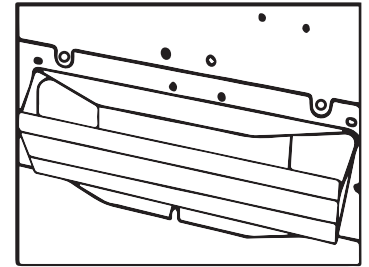

Figure 3
- Using the supplied screws, attach the rectangular vent/damper to the rear of the range hood (see Figure 3).